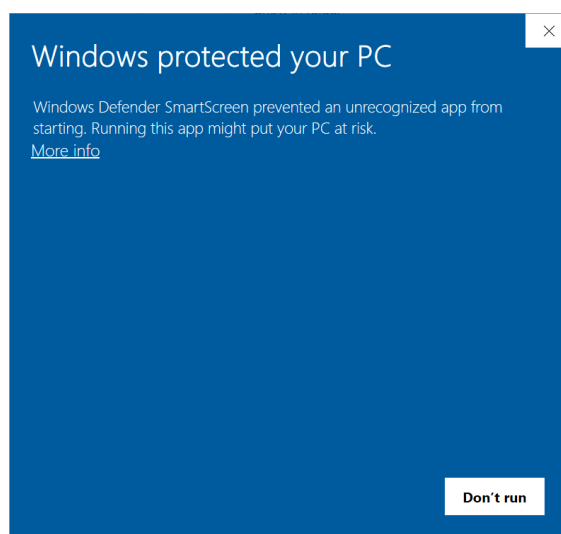

Figure 1: Windows installer warning
6. If Windows displays the warning message shown in Figure 1, click the underlined, "More info" link -> Run anyway.